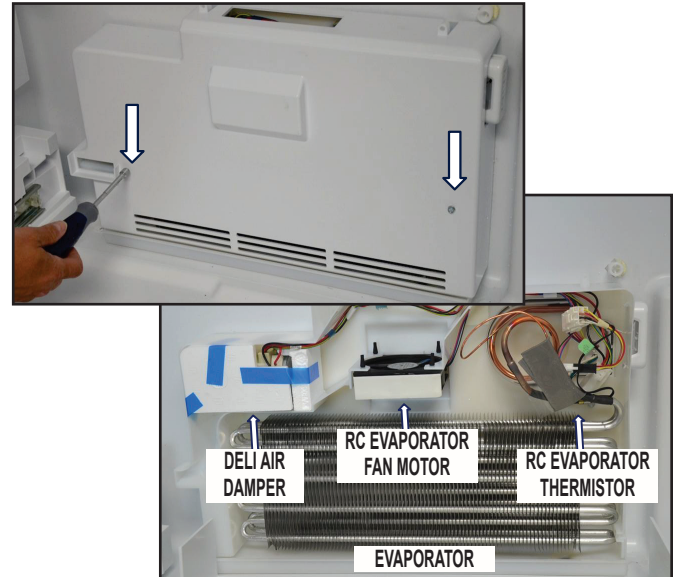

FIGURE 27
4. Remove 2, 1/4" hex head screws to remove RC evaporator cover to access RC evaporator and evaporator components. See *Figure 27*.